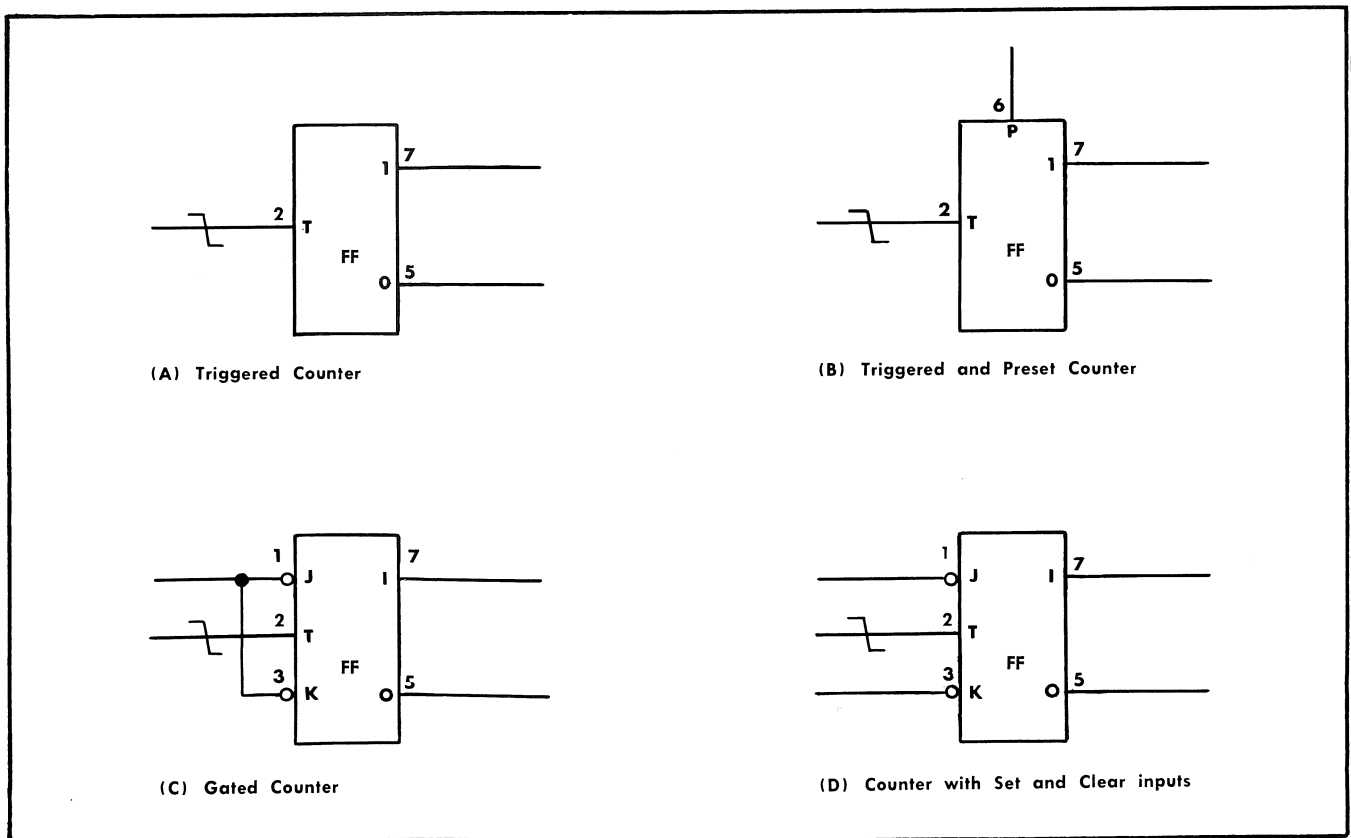

Fig. 3-7. Type $F_{\mu L}$ 923 micrologic symbols and configurations.
Fig. 3-7 (A) shows the basic configuration when using the Type $F_{\mu L}$ 923 as a triggered divide-by-two counter. To flip, a negative-going transition is required at pin 2. The output pins (5 and 7) exchange polarity each time a negative-going transition arrives at pin 2. For example, the first negative-going transition at pin 2 may cause pin 5 to go low. The next negative-going transition sets pin 5 to high. Pin 5 will go to low every other trigger into pin 2, resulting in a divide-by-two countdown. When pin 5 is low, pin 7 is high and vice versa, similar to the two sides of a multivibrator.
In Fig. 3-7 (B), pin 6 is shown as an active element. This pin is typically used to preset the flip-flop so that the output pins start with the desired polarity at a certain time. When pin 6 is high, pin 5 will be high and pin 7 will be low. The high at pin 6 overrides any trigger input at pin 2 so that the flip-flop can always be started with the desired polarity. When the high is no longer present at pin 6, the unit can resume triggered operation under control of pin 2.
A gated counter is illustrated in Fig. 3-7 (C). In this configuration, operation is similar to the triggered counter except that the flip-flop is inhibited from changing states during the time that pins 1 and 3 are high. When pins 1 and 3 are low, negative-going transitions at pin 2 will trigger the flip-flop in the normal manner.
In Fig. 3-7 (D), separate controlling signals are coupled into pins 1, 2 and 3. As in the gated counter, if pins 1 and 3 are both high, pin 2 cannot trigger the flip-flop. If pin 1 is high and pin 3 is low, the next negative-going transition at pin 2 will trigger the flip-flop so that pin 7 is high and pin 5 is low. If the flip-flop is already in that state when the trigger arrives at pin 2, no change will occur. If pin 1 is low and pin 3 is high, the flip-flop will change states with a trigger at pin 2 as necessary to set pin 7 to low and pin 5 to high. Pin 7 output signal has the same polarity as pin 1 input signal and pin 5 output polarity will be the same as pin 3 input polarity.